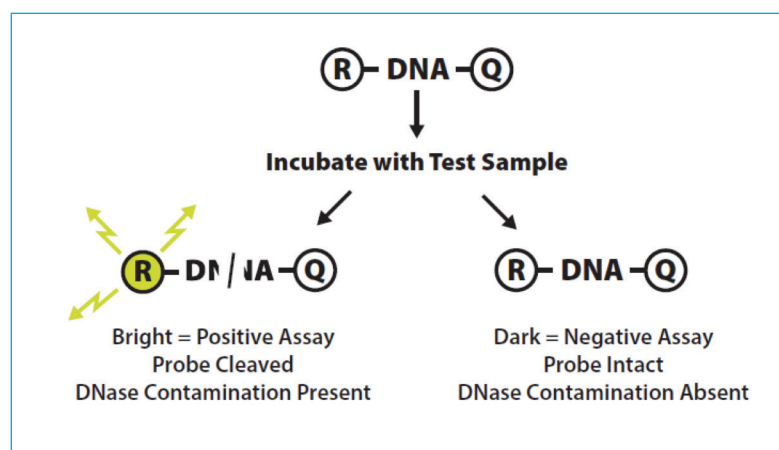

Figure 1. DNaseAlert™ Assay.
The DNaseAlert Substrate is a synthetic DNA oligonucleotide that has a HEX™ reporter dye (hexachlorofluorescein, R) on one end and a dark quencher (Q) on the other end (Figure 1). Its sequence has been carefully optimized to react with a wide variety of nucleases; it contains domains that will react with single-stranded endonucleases, single-stranded exonucleases, and double-stranded nucleases. Intact, the substrate has little or no fluorescence. When cleaved by a DNase, the substrate fluoresces pink (536 nm or UV excitation, 556 nm emission).